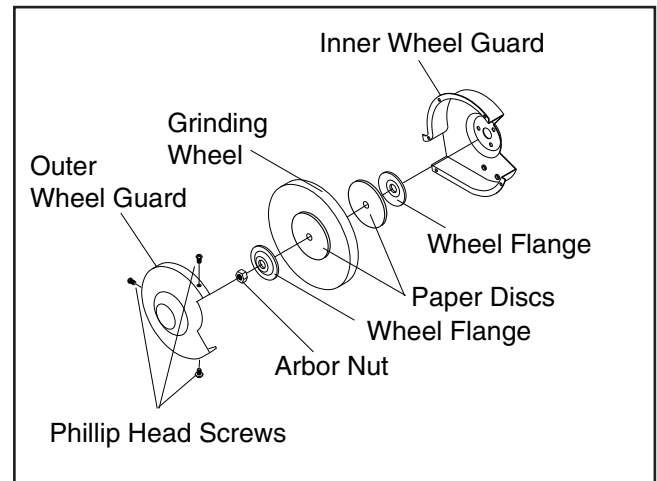

Figure 12. Typical assembly order for wheel installation.
5. Mount the new wheel as shown in **Figure 12**. Always make certain there is a paper or fiber disc between the wheel flanges and the wheel itself. Tighten the arbor nut snugly but **DO NOT** over-tighten. Over-tightening can crack the wheel.